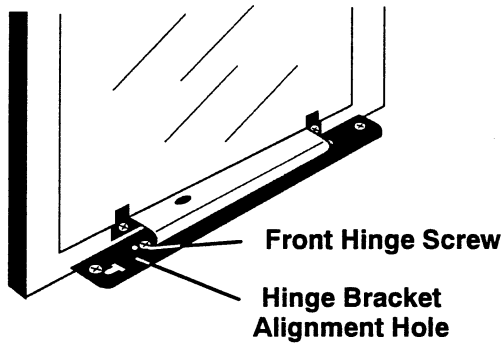

Figure 5-9. Removing Top Cover
2. Remove the front hinge screw. Figure 5-9.
When replacing the hinge bracket, be certain the button on the bracket is fitted inside the hole in the base. Figure 5-9.